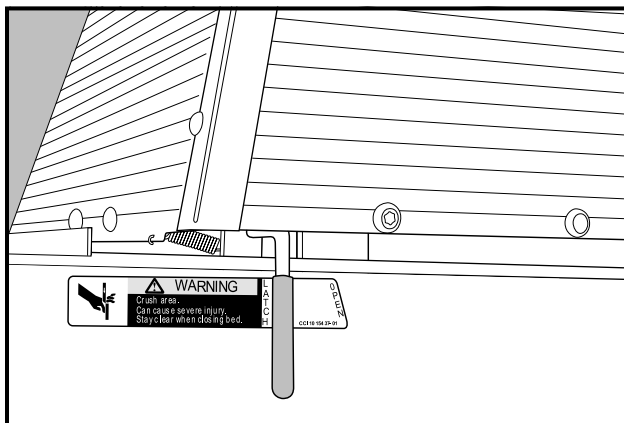
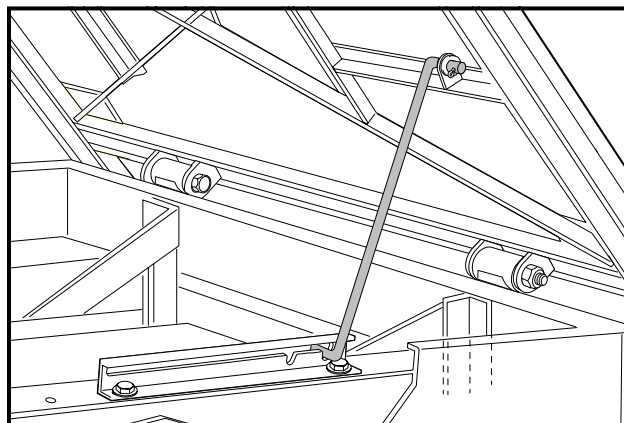

Figure 12 Bed Latch
Figure 13 Prop Rod
The vehicle is equipped with a bed latch on the driver side of the vehicle (**Figure 12, Page 20**) and an automatically engaging prop rod (**Figure 13, Page 20**). To lift the bed, pull the latch handle toward the rear of the vehicle and lift the bed. To close the bed, disengage the prop rod and gently lower the bed until the bed latch engages. **DO NOT** drop the bed.
- THE VEHICLE IS EQUIPPED WITH AN AUTOMATICALLY ENGAGING PROP ROD (**FIGURE 13, PAGE 20**), UNLESS EQUIPPED WITH THE HYDRAULIC OR ELECTRIC BED LIFT ACCESSORY.
The vehicle is equipped with an automatically engaging prop rod and prop rod track on the driver side of the rear body (**Figure 13, Page 20**). When pulling the bed latch handle and lifting the bed, the prop rod will come to rest in one of the notches in the prop rod track.